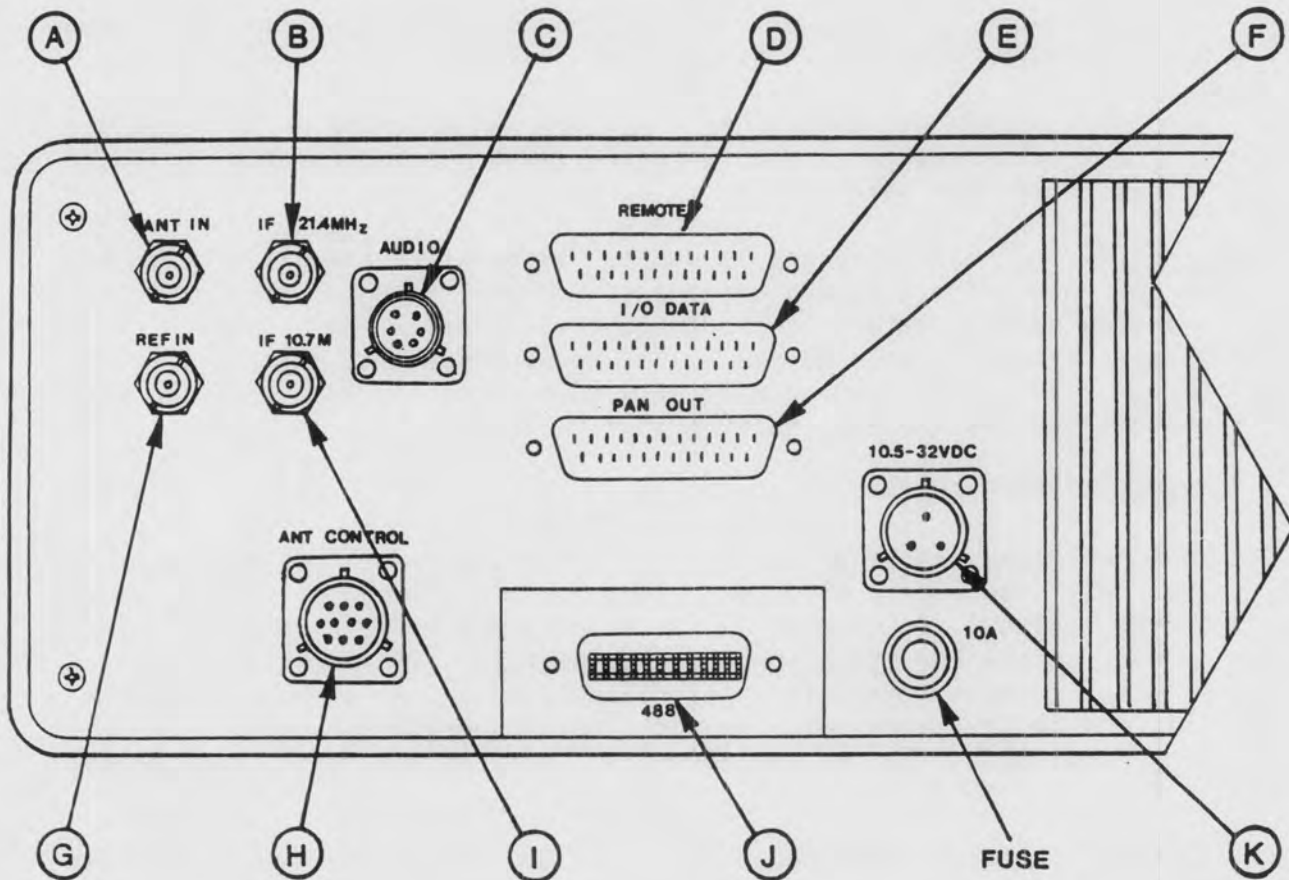

FIGURE 2-1. REAR PANEL CONNECTORS, OAR 3045 RECEIVER
2.3.2 Interconnections. All connectors are located on the rear of the receiver except for a 4 Ohm, 4 Watt phone jack on the front panel. Rear panel connectors are shown in Figure 2-1. Descriptions of each connector with paragraph letter related to the callouts in the illustration.